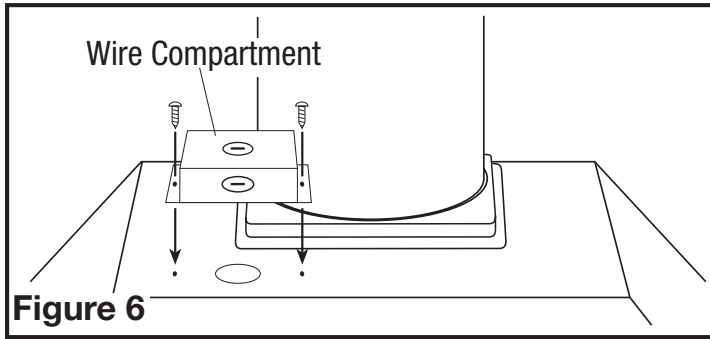

Figure 6
2. Attach the wire compartment to the power unit with two of the provided #6 blunt tipped screws (**Figure 6**).